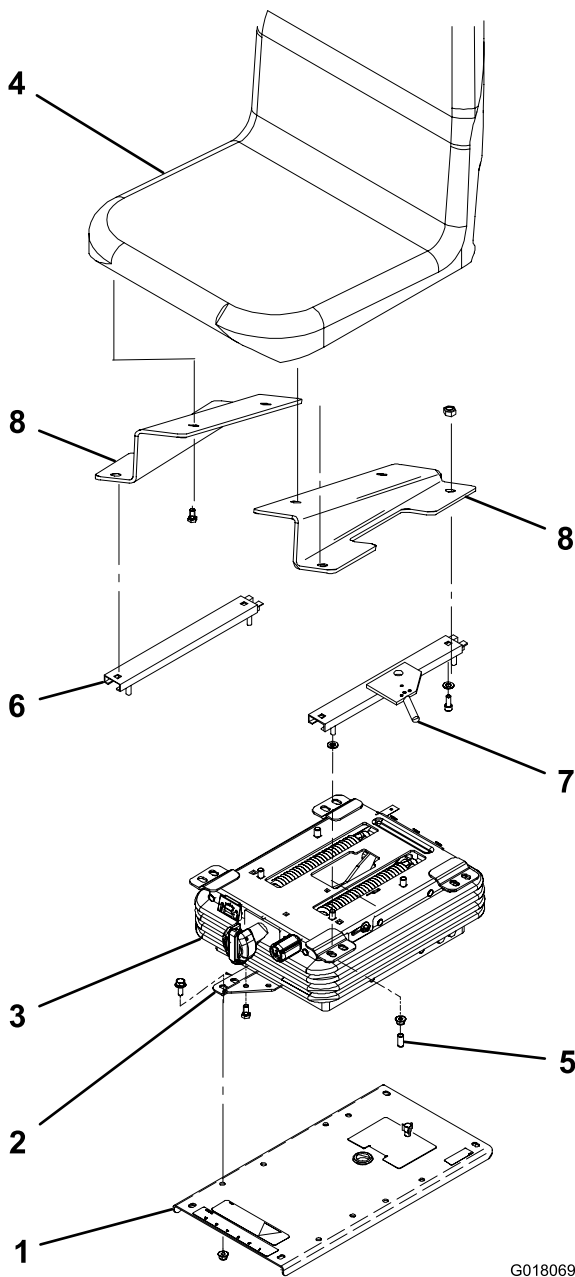

Figure 1
1. Secure the lower seat brackets to the seat suspension with the (4) bolts included with the kit (Figure 1).
2. Remove the (4) bolts and nuts securing the seat mounting plate to the traction unit frame (Figure 1). Do not remove the seat plate.
3. Secure the lower seat brackets and the seat suspension to the seat plate with the (4) bolts and nuts included with the kit (Figure 1).
4. Secure the L.H. and R.H. seat mounts to the seat with (4) bolts (Figure 1). The seat mounts are to be positioned so the high ends are to the front of the seat.
5. Loosely install the seat adjusters to the seat mounts with the (4) bolts, flatwashers and nuts included with the kit (Figure 1). Do not tighten. The seat adjuster with the adjustment lever is to be mounted to the left seat mount.
7. Mount the upper seat adjusters to the seat suspension with the (4) nuts included with the kit (Figure 1). Insert the vinyl caps onto the seat studs. Tighten the fasteners securing the seat adjusters.
2. Secure the lower seat brackets to the seat suspension with the (4) bolts included with the kit (Figure 1).
3. Secure the lower seat brackets and the seat suspension to the seat plate with the (4) bolts and nuts included with the kit (Figure 1). Use the rear set of mounting holes in the seat plate and the forward set of mounting holes in the lower seat brackets.
4. Mount the upper seat brackets to the seat with the (4) bolts, flatwashers and nuts included with the kit (Figure 1). Use the front set of mounting holes in the seat. The seat bracket with the adjustment lever is to be mounted to the left side of the seat.
5. Mount the upper seat brackets to the seat suspension with the (4) washers and nuts included with the kit (Figure 1). Use the rear set of mounting holes in the seat suspension. The washers are to be positioned between the seat brackets and the seat suspension. Insert the vinyl caps onto the seat studs.